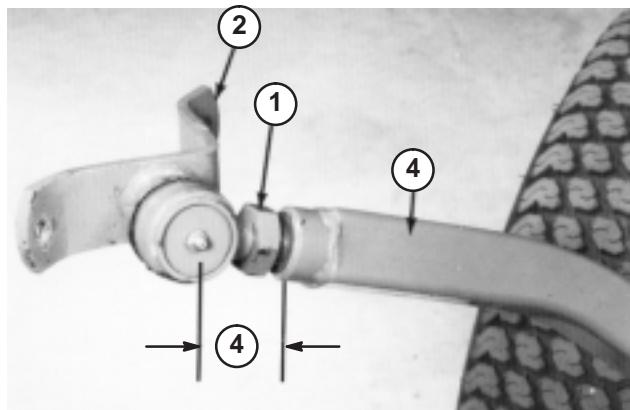

Figure 17
2. Screw ball joint into right hand push arm until center of ball joint is 2-3/8 in. (60 mm) away from front of push arm (Fig. 17). Do not tighten jam nut.